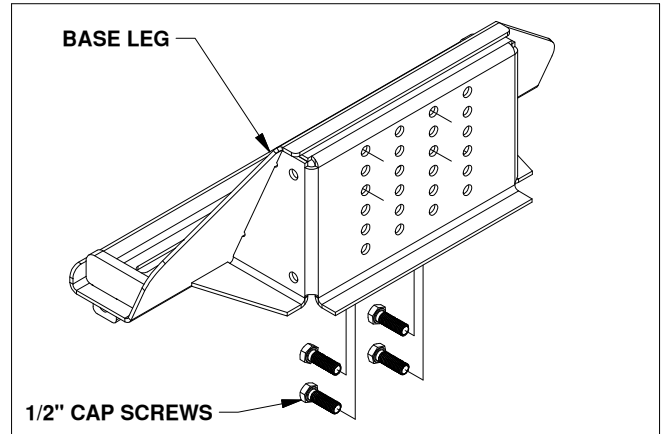

Figure A4: View of base leg.
3. Identify mounting holes. Locate both base legs and eight 1/2" cap screws. Identify the mounting holes needed to mount the arms in their optimal location. Pass four 1/2" cap screws through the bottom of the base leg into the bolt plate, as shown in Figure A4.